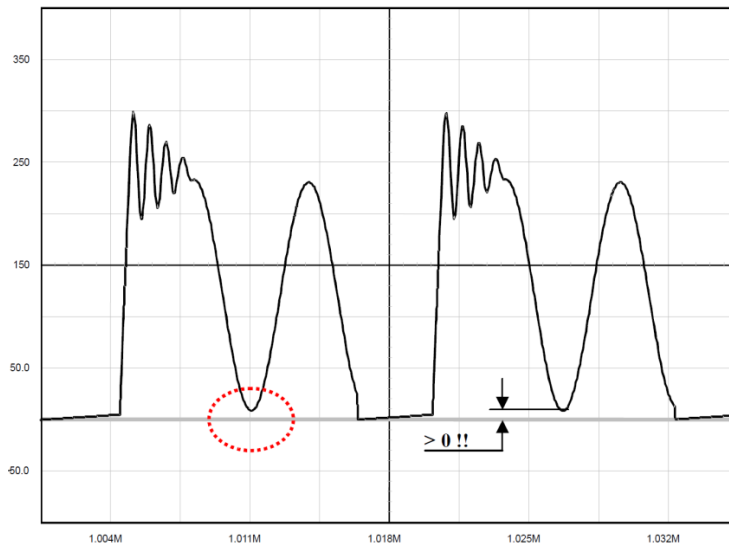

Figure 51. The Drain–Source Wave Shall Always be Positive
1. The lateral MOSFET body–diode shall never be forward biased, either during start–up (because of a large leakage inductance) or in normal operation, depicted by Figure 51. This condition sets the
and defines the amount of ripple we want in CCM, depicted by Figure 51.
Figure 53a: the simple capacitor limits the voltage according to the lateral MOSFET body–diode shall never be forward biased, either during start–up (because of a large leakage inductance) or in normal operation as shown by Figure 51. This condition sets the maximum voltage that can be reflected during t_f . As a result, the flyback voltage which is reflected on the drain at the switch opening cannot be larger than the input voltage. When selecting components, you must adopt a turn ratio which adheres to the following Equation 6. This option is only valid for low power applications, e.g. below 5 W, otherwise chances exist to destroy the MOSFET. After evaluating the leakage inductance, you can compute C with (Equation 7). Typical values are between 100 pF and up to 470 pF. Large capacitors increase capacitive losses...